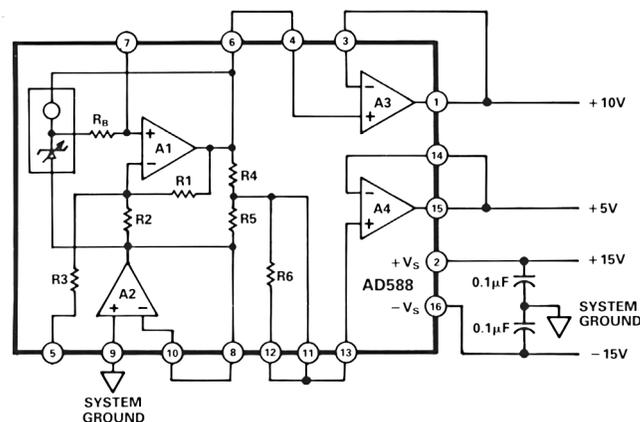
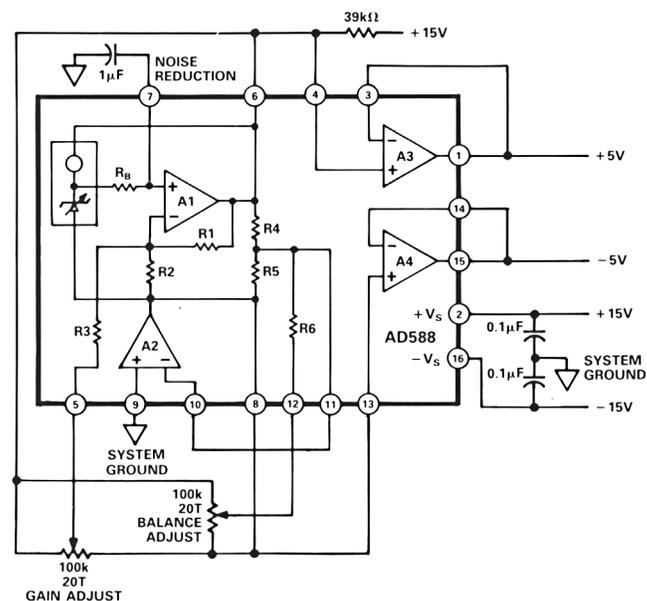
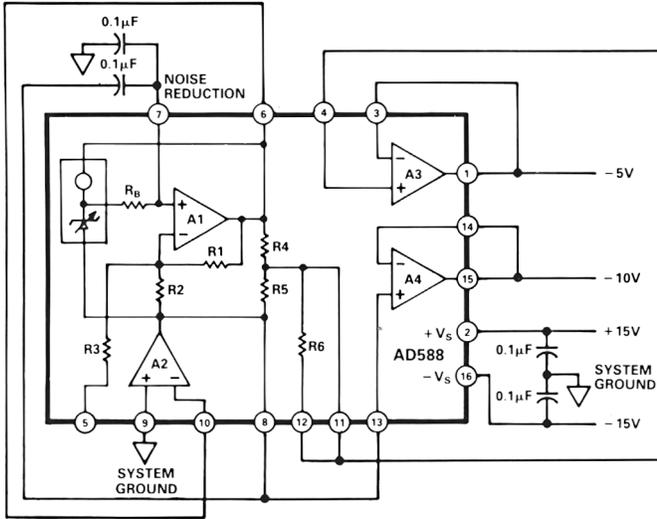

Figure 2a. +10 V Output
Figure 2b. +5 V and -5 V Outputs
Figure 2c. -10 V Output
+10 V Configuration Figure 2a
-10 V Configuration Figure 2c
+5 V, -5 V, ± 5 V Configuration Figure 2b
The AD588 can be configured to provide +10 V and -10 V reference outputs as shown in Figures 2a and 2c respectively. It can also be used to provide +5 V, -5 V or a ± 5 V tracking reference as shown in Figure 2b. Table I details the appropriate pin connections for each output range. In each case, Pin 9 is connected to system ground and power is applied to Pins 2 and 16.
As indicated in Table I, a +5 V buffered output can be provided using amplifier A4 in the +10 V configuration (Figure 2a). A -5 V buffered output can be provided using amplifier A3 in the -10 V configuration (Figure 2c). Specifications are not guaranteed for the +5 V or -5 V outputs in these configurations. Performance will be similar to that specified for the +10 V or -10 V outputs.
Figure 2b shows GAIN and BALANCE trims in a +5 V and -5 V tracking configuration. A 100 k Ω 20-turn potentiometer is used for each trim. The potentiometer for GAIN trim is connected between Pins 6 (V_{HIGH}) and 8 (V_{LOW}) with the wiper connected to Pin 5 (GAIN ADJ). The potentiometer is adjusted to produce exactly 10 V between Pins 1 and 15, the amplifier outputs. The BALANCE potentiometer, also connected between Pins 6 and 8 with the wiper to Pin 12 (BAL ADJ), is then adjusted to center the span from +5 V to -5 V.
If further noise reduction is desired, an optional capacitor may be added between the NOISE REDUCTION pin and ground as shown in Figure 2b. This will form a low-pass filter with the 4 kΩ R_B on the output of the Zener cell. A 1 µF capacitor will have a 3 dB point at 40 Hz and will reduce the high frequency (to 1 MHz) noise to about 200 µV p-p. Figure 4 shows the 1 MHz noise of a typical AD588 both with and without a 1 µF capacitor.
Note that a second capacitor is needed in order to implement the NOISE REDUCTION feature when using the AD588 in the -10 V mode (Figure 2c.). The NOISE REDUCTION capacitor is limited to 0.1 µF maximum in this mode.